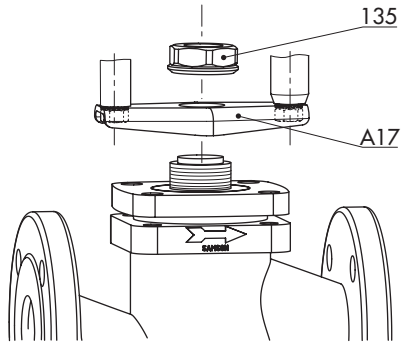
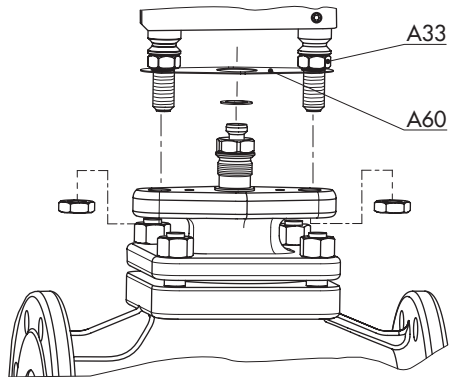

Fig. 5-2: Mounting using crossbeam and central nut (form B attachment)
Fig. 5-3: Mounting using rods (form C attachment)
When the actuator is mounted to the valve using a crossbeam (form B, Fig. 5-2), the actuator is fastened to the valve bonnet using a central nut.
When the actuator is mounted using rods (form C, Fig. 5-3), the actuator is connected to the valve bonnet using rods. In this case, a crossbeam is not required for mounting the actuator. A plate keeps the correct distance between rods.
**Legend for Fig. 5-2 and Fig. 5-3**